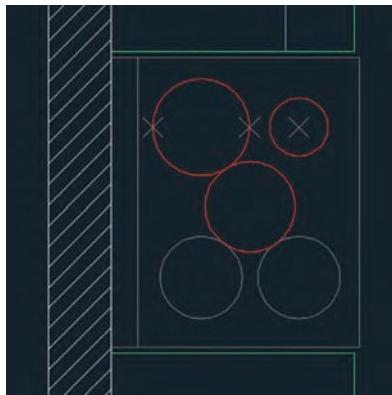

FIGURE 2.23 Drawing circles with various options
10. Type **TAN**, press Enter to invoke the Tangent object snap, and click the circle on the lower right. You can type the first three letters of any object snap as an alternative to using the context menu. AutoCAD draws a circle precisely tangent to the three others (see Figure 2.23).